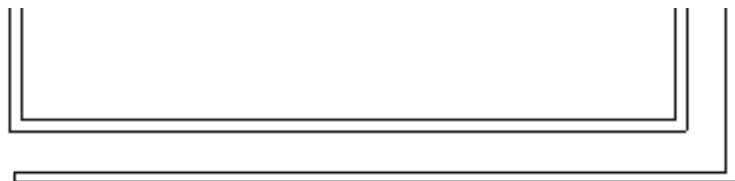

Figure 2–68
- Most linear elements connected at a corner automatically trim or extend to meet at the offset distance, as shown in Figure 2–68.